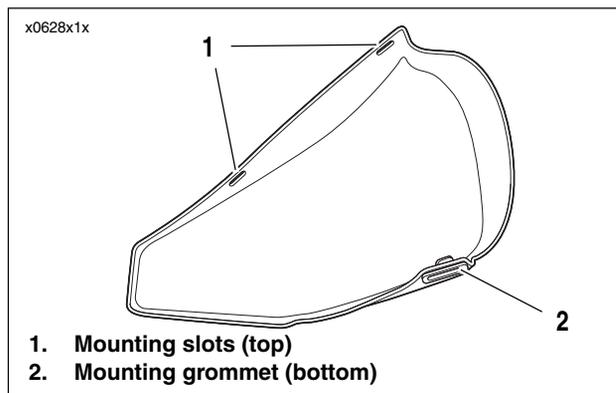
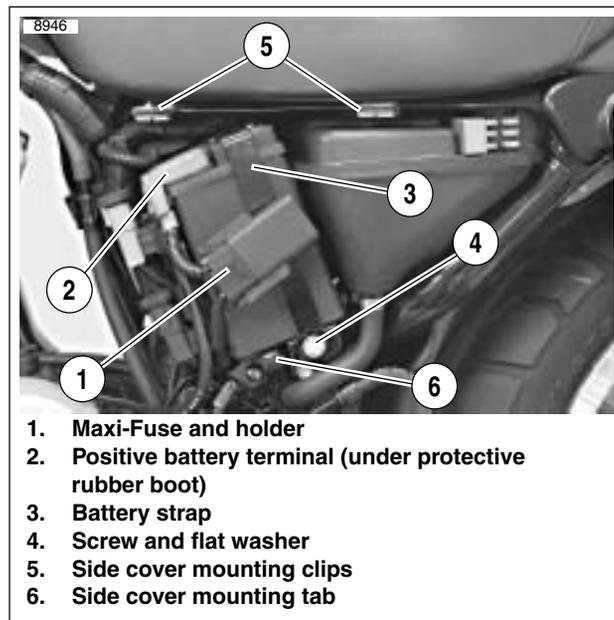
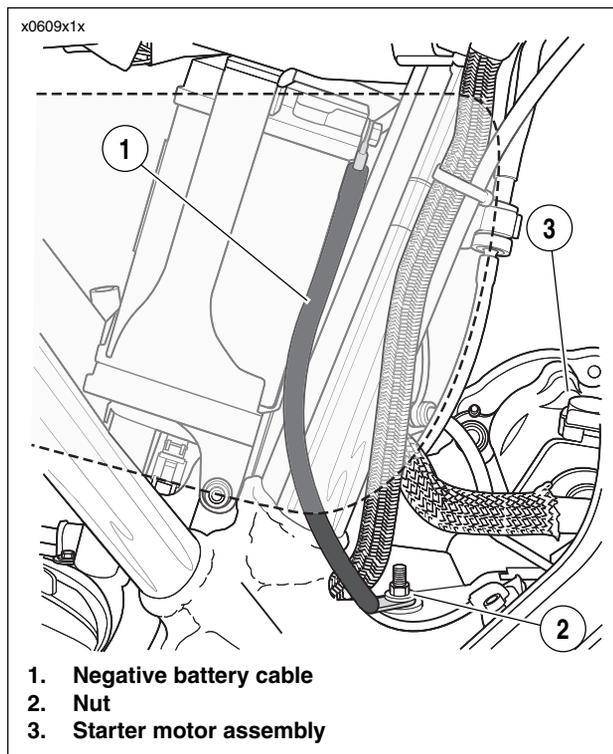

Figure 1-10. Left Side Cover
Figure 1-11. Maxi-Fuse and Battery Location
Figure 1-12. Negative Battery Connection
See Figure 1-10. Removal of the left side cover provides access to the battery, fuses and various accessory and diagnostic electrical connectors. No tools are required to remove or replace the cover.
1. See Figure 1-11. Grasp left side cover at upper corners and gently pull away from plastic mounting clips (5) on frame.
2. Lift cover up slightly so mounting grommet (item 2, Figure 1-10.) clears mounting tab (item 6, Figure 1-11.) on battery tray. Remove cover.
1. Place bottom of side cover with grommet (item 2, Figure 1-10.) onto mounting tab on battery tray (item 6, Figure 1-11.)
2. Line up top of side cover with mounting clips (item 5, Figure 1-11.), aligning with front clip first. Press top of side cover into clips until snug.
2. See Figure 1-11. Remove Maxi-Fuse and holder (1) from battery strap (3) by grasping holder and sliding it toward the rear of the motorcycle. Then remove Maxi-Fuse holder from its mounting pin on battery strap.
3. Remove battery strap screw and flat washer (4). Unhook battery strap from battery tray mount on top of battery and remove strap.
4. See Figure 1-12. Remove nut (2) that secures negative (-) battery cable (1) to stud on crankcase boss behind starter motor assembly (3).
5. See Figure 1-11. Lift up protective rubber boot covering battery positive terminal (2). Unthread screw from battery positive (+) terminal and remove positive battery cables.
4. See Figure 1-11. With negative battery cable disconnected from grounding point on crankcase, insert screw through positive (+) battery cables: through maxi-fuse cable first, then through main battery cable, and into positive battery terminal (2). Thread screw into terminal. Tighten to 40-50 **in-lbs** (4.5-5.7 Nm).
6. Hook top of battery strap (3) to battery tray mount on top of battery. Install flat washer and strap screw (4). Tighten to 36-60 **in-lbs** (4.1-6.8 Nm).
8. Hook Maxi-Fuse holder (1) to pin on battery strap and slide forward until it snaps into place.
9. See Figure 1-12. Place negative battery cable end (1) onto stud on crankcase boss behind starter motor assembly (3). Thread nut (2) onto stud. Tighten to 55-75 **in-lbs** (6.2-8.5 Nm).